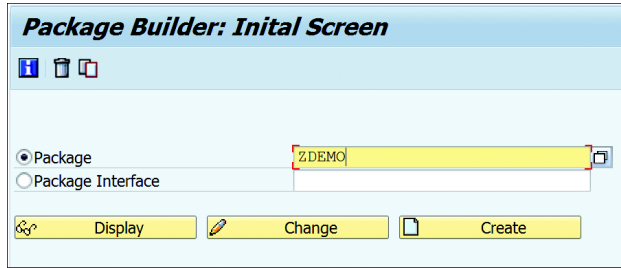

Figure 2.12 Package Builder Initial Screen
2. On the PACKAGE BUILDER: INITIAL SCREEN, select the PACKAGE radio button and enter the name of the package. Make sure to follow the namespace conventions, as listed in Table 2.7. Once you enter the name of the package, click the CREATE button shown in Figure 2.12.